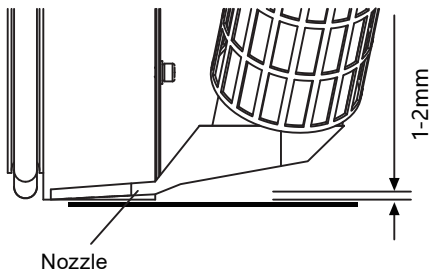

Fig 1
1. The distance between the air nozzle and the ground should be shown in Fig 1 (the distance has been adjusted before delivery).